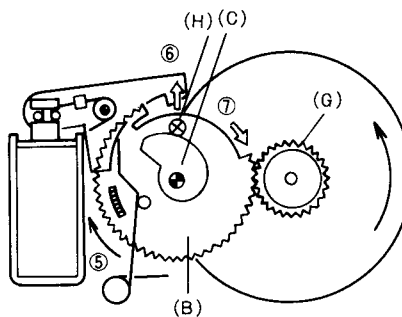

Fig. 4-3 STOP to PLAY operation 2
- **STOP → PLAY (Fig. 4-3)**
5. Gear (G) rotation is transmitted to gear (B).
6. Cam (C) lifts the shift pin (H).
7. Gear (B) is disengaged from gear (G) after the shift pin (H) reaches maximum height.